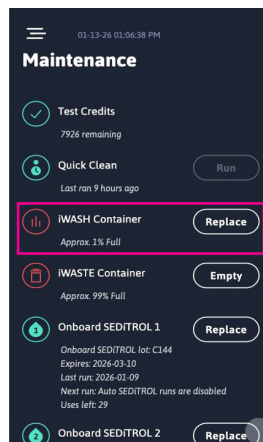

Figure 64
8. From the Maintenance Menu, press the iWASH Container “Replace” button to reset counter to 100% full (Figure 64).